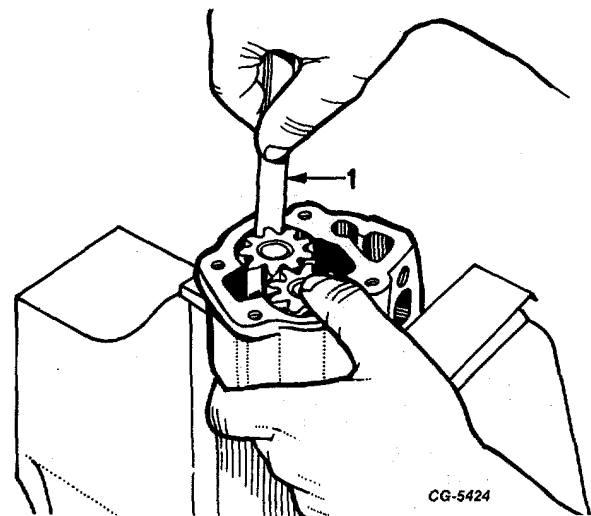

Fig. 131. Measure Pump Gear-to-Body Clearance
3. While holding the gears in this manner, measure the clearance between the outside diameter of the gear and the bore of the housing, Figure 131. Clearance should be within the limits given in the specifications.